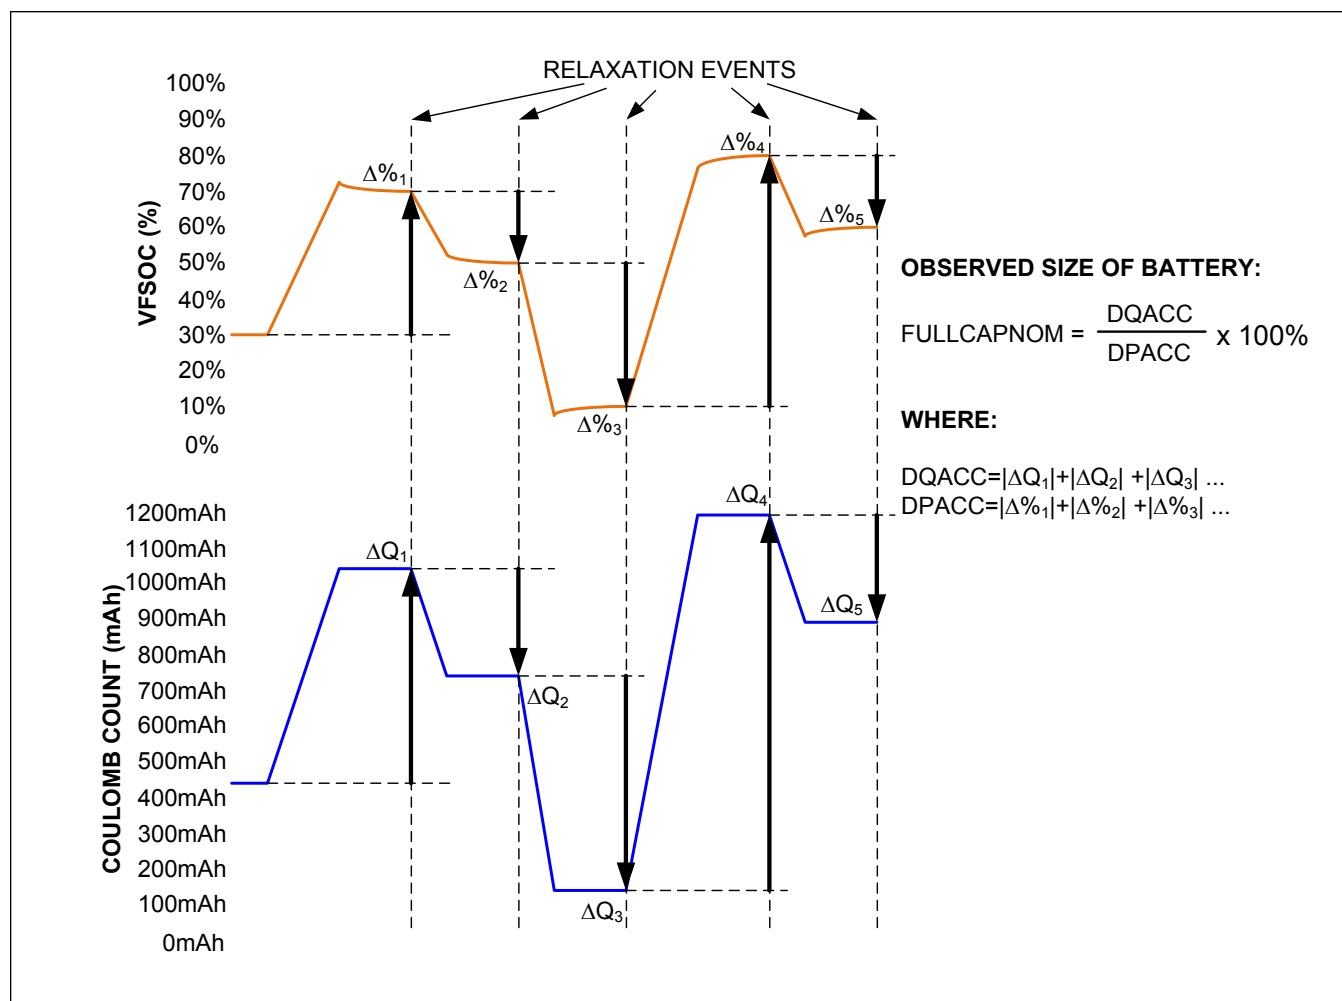

Figure 21. FullCapNom Learning
- **Cell Capacity (FullCapNom Register):** This is the total cell capacity at full, according to the voltage fuel gauge. This includes some capacity that is not available to the application at high loads and/or low temperature. The IC periodically compares percent change based on an open circuit voltage measurement versus coulomb-count change as the cell charges and discharges, maintaining an accurate estimation of the pack capacity in milliamp-hours as the pack ages. See Figure 21.